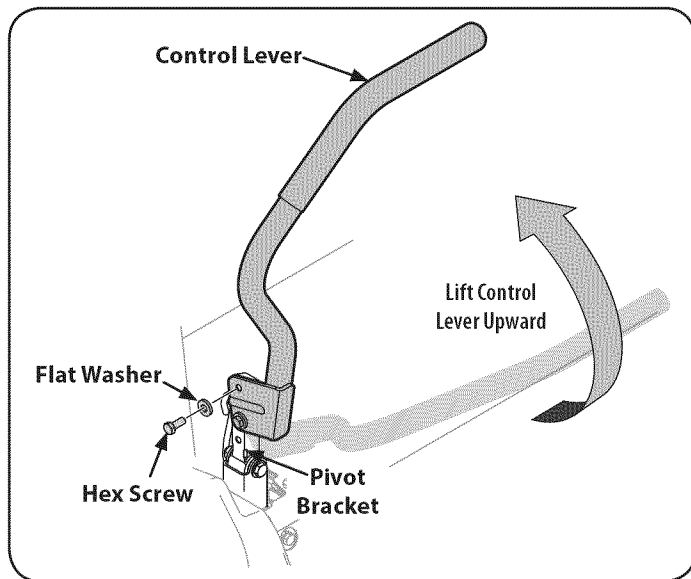

Figure 4
2. Lift and swing that control lever upward until the slotted hole in the lever bracket aligns with one of the holes in the pivot bracket. See Figure 4.
3. Slide the flat washer onto the hex screw. From the outside, insert the hex screw with washer through the control lever slot and the hole of the pivot bracket. See Figure 4. Using a 1/2" wrench snug the screw, but do not fully tighten.